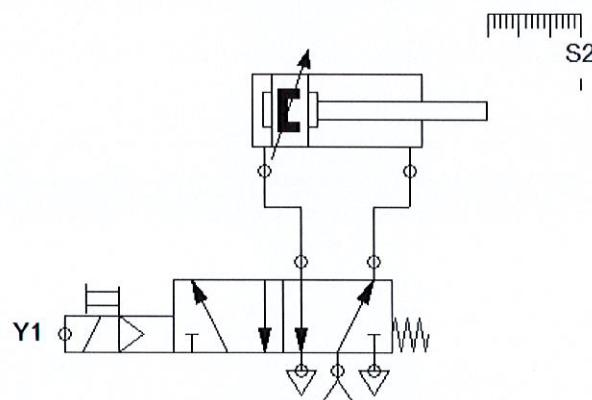

Figure 2(c) / Rajah 2(c)
- CLO2 (c) Figure 2(c) below shows the pneumatic circuit that controls the movement of a double-acting cylinder. When switch S1 is pressed, the cylinder will move forward. The cylinder continues to move forward even when switch S1 is released until it reaches the maximum position, the cylinder will move backwards when limit switch S2 is activated. Propose an electrical circuit for this system.